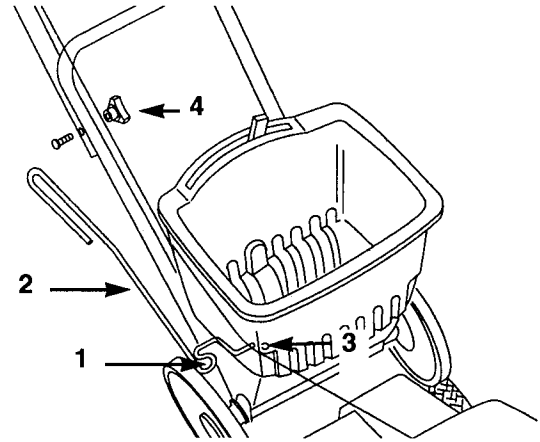

Figure 34
3. Remove the handle knob and bolt (Fig. 34) from the right side of the mower.
- A. Insert the mounting rod into the hole on the right side of the hopper (Fig. 34).
- B. Put the engine rope into the curve in the mounting rod (Fig. 34).
2. Remove the mounting rod from the handle and the hopper (Fig. 34). Reinstall the handle knob and bolt.